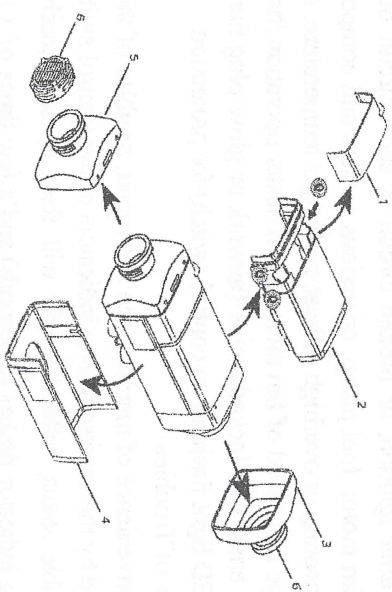

Fig. 4
The structure of the hood-shape case is shown in Fig. 4. It consists of the top cover 2 (The junction box cover 1 can be fixed on 2), bottom cover 4, air inlet hood 6, air inlet of heater 5 and hot air outlet 3. They form an air heating passage. Blade wheel of heating fan (Fig.3-10) on the fan motor (the same for supporting combustion fan) sucks in cold air from the air inlet. The air is heated by the heat exchanger and sent out from the hot air outlet.
4.5.2 Connection of the main wire bundle with the heater: Use a blunt tool to pry the places marked “@” of Fig. 4 gently to remove the junction box cover (Fig. 4-1). Connect the 18-wire connector X6 of the wire bundle to the controller socket. The wire bundle can come out from either the right side or the left side of the heater. Then replace the junction box cover. Make sure to have good sealing between the junction box cover and upper cover and between the junction cover box and the wire bundle sealing mat to avoid any thermal malfunction due to leak of air from the hood-shape case.